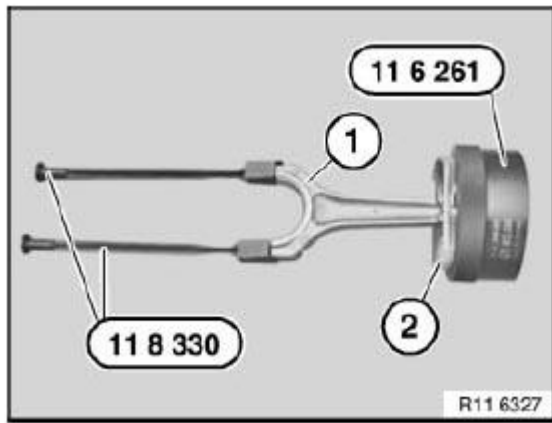

Fig. 151: Attaching Special Tool In Conrod
NOTE: See **Fig. 151** illustration.
Pre-install piston (2) in special tool 11 6 261. See **Fig. 151**.